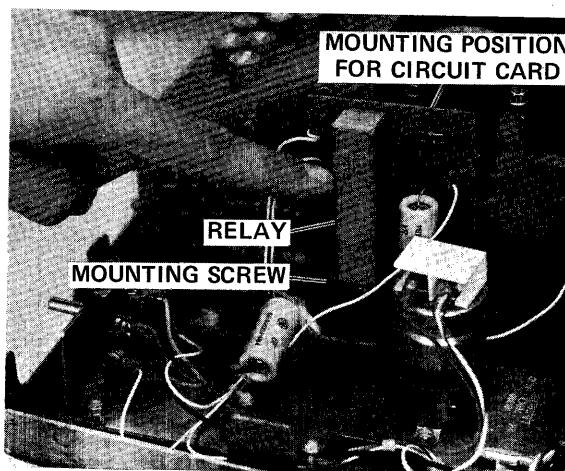
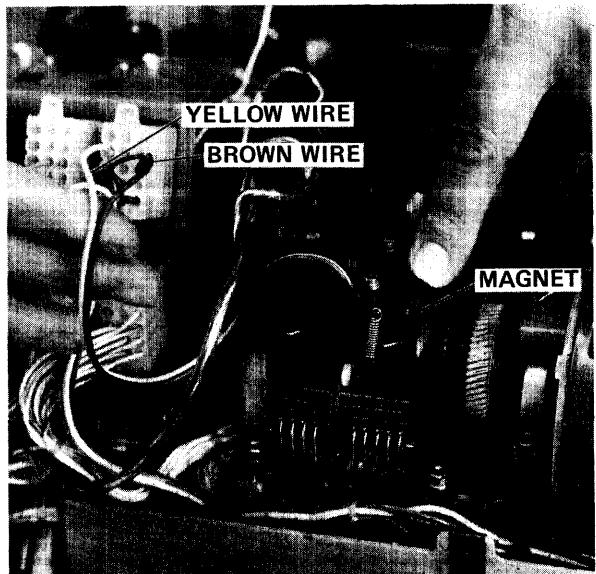

Figure 1. Relay Circuit (Alternate)
Figure 2. Distributor Trip Magnet
4. A relay circuit must be introduced into the paper tape reader drive circuit. The recommended circuit consists of a relay, a resistor, a capacitor and suitable mounting fixture. An alternate circuit utilizes a thyractor for suppression of inductive spikes. This change requires the assembly of a small "vector" board with the relay circuit on it. It may be mounted in the teletype by using two tapped holes in the mounting plate shown in Figure 1. The relay circuit may then be added without alteration of the existing circuit. (See Figures 2, 3, and 6.) That is, wire "A", to be connected to the brown wire in Figure 2, may be spliced into the brown wire near its connector plug. The "line" and "local" wires must then be connected to the mode switch as shown. Existing reader control circuitry within the teletype need not be altered.